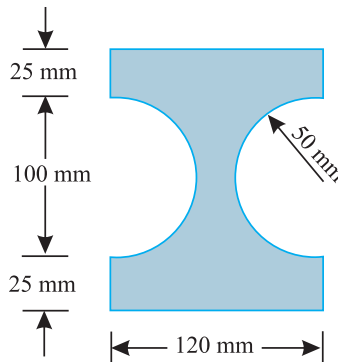

Fig. 7.17.
**Example 7.13.** Figure 7.17 shows the cross-section of a cast iron beam.